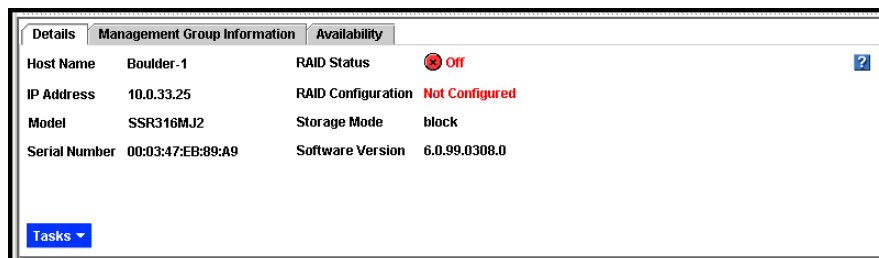

Figure 18. Icon Showing RAID is Off
- If RAID is **off**, a red circle displays in the SSM configuration details tab, as shown in Figure 18. For information about turning RAID on, see “Starting RAID” on page 76.